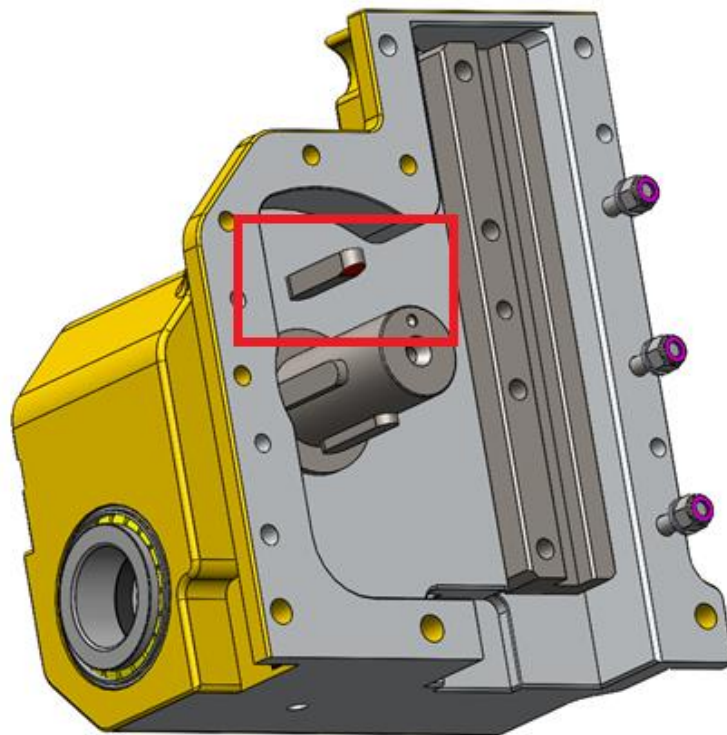

Figure 10
- e. Position the block with the inside facing up, insert the retaining washer (1-4/25). Insert the 4 keys (1-4/20) into the shaft (1-4/16). The inclined face of the key must face the tip of the shaft, as shown in Figure 10.